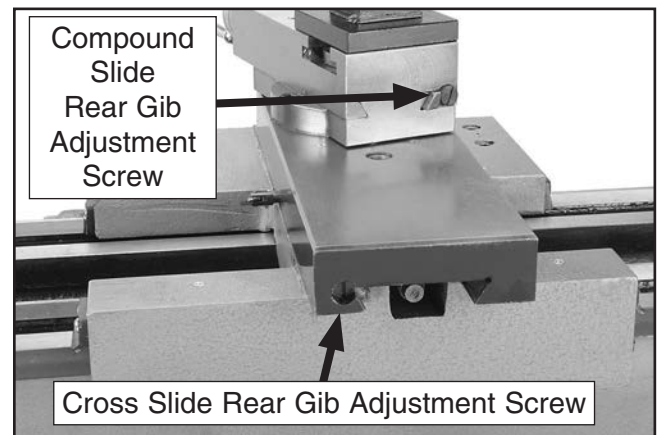

Figure 96. Cross and compound slide rear gib adjustment screws.
2. Loosen the rear gib adjustment screw a small amount, then tighten the front gib adjustment screw the same amount (see **Figures 96–97**).